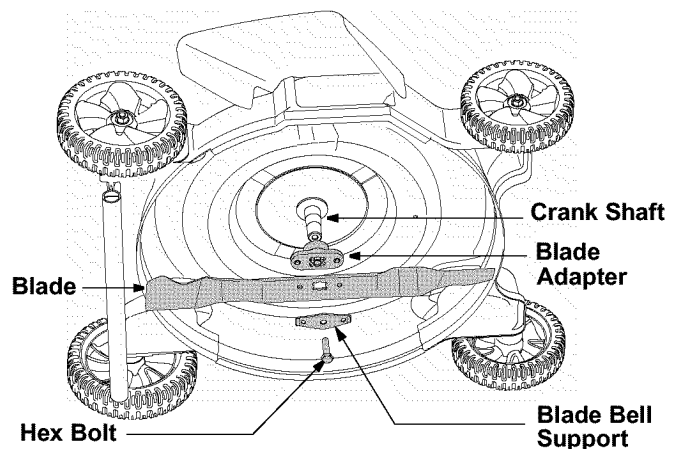

Figure 11
2. Remove the bolt and the blade bell support which hold the blade and the blade adapter to the engine crankshaft. See Figure 11.
8. Place blade on the blade adapter. See Figure 11. Make sure that the blade is aligned and seated on blade adapter flanges.